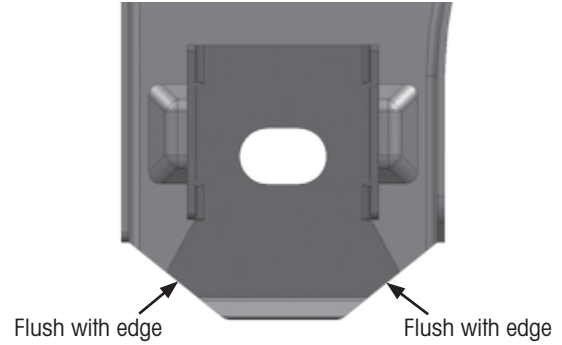
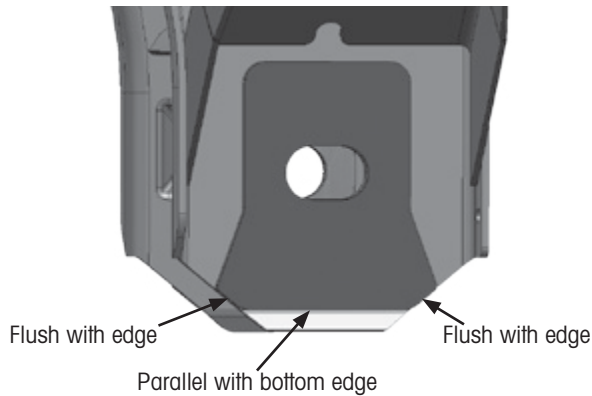

Figure 6: Positioning outboard patch plate
Figure 8: Positioning inboard patch plate
3. Temporarily place the applicable patch plate, inner and outer, in the cutouts to check for proper placement and fit, Figure 5, Figure 6 and Figure 8.
1. Position the outboard patch plate on the frame bracket, outboard side, as shown in Figure 6.
1. **Position** the inboard patch plate on the frame bracket, inboard side, as shown in Figure 8.